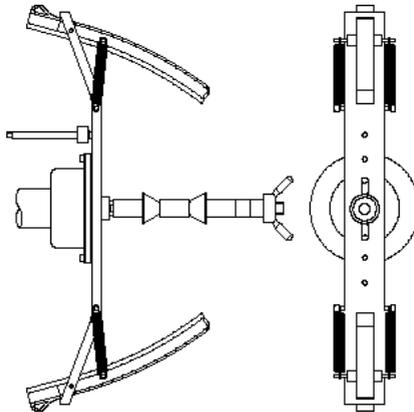

Fig.F4.2 Application of sample weight on the internal side of the motorcycle flange on the shaft (Cal2 phase)
8. At the end of the launch, the machine will display the writing $\bar{U} N O = \hat{\ } i$. Apply the calibration weight on the internal side as shown in Figure F4.2. The calibration weight is to be applied on the hole that has the writing "CAL" marked on it;  or [P5] . When the geometric data of the U1 programme is displayed.
9. Bring the motorcycle flange in perfect vertical position with the calibration weight at the top part as shown in figure F4.2 and press the [P8]  Start or lower the wheel guard.